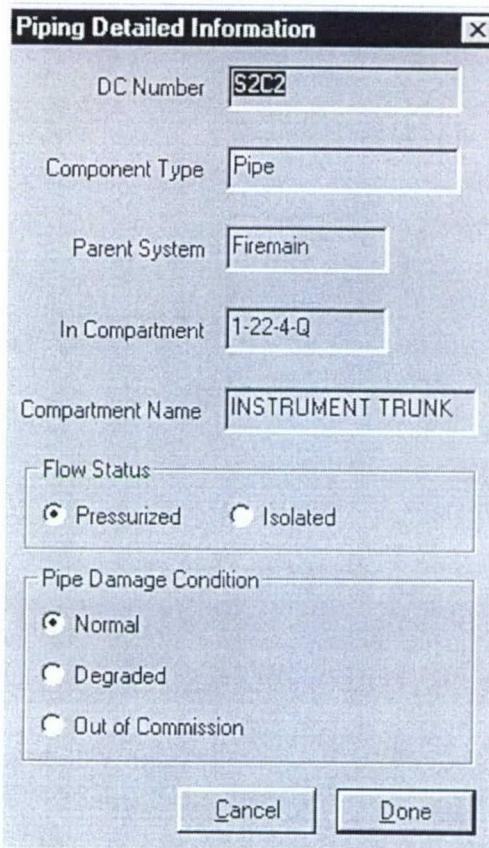

Figure 5-21. Component Detailed Information Window
- The next item common to all component context menus is the component information window. The “Component Info”, “Valve Info”, or “Pump Info” items launch a window that provides more component information than can be displayed graphically in the Main View. A Pipe Detailed Information Window is shown in Figure 5-21. The component detailed information window provides the DC Number, component type (such as valve, pump, door), parent system, compartment location (DC number and noun-name), current operability status, and current damage status. The data in the window is static. The window must be closed and reopened for information in the window to refresh.